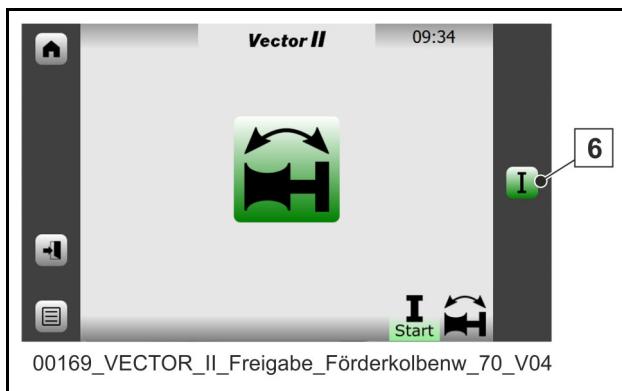

Fig. 90 Release pumping piston change
- After the selection, release “Pumping piston change” operating mode by actuating the button (6) (Fig. 90).